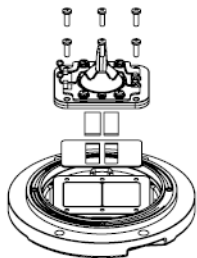

Figure 5-9
- Dismount the M5×16 screws on the upper cover, prism pressing bracket and dead plate of the lamp (see Figure 5-9).